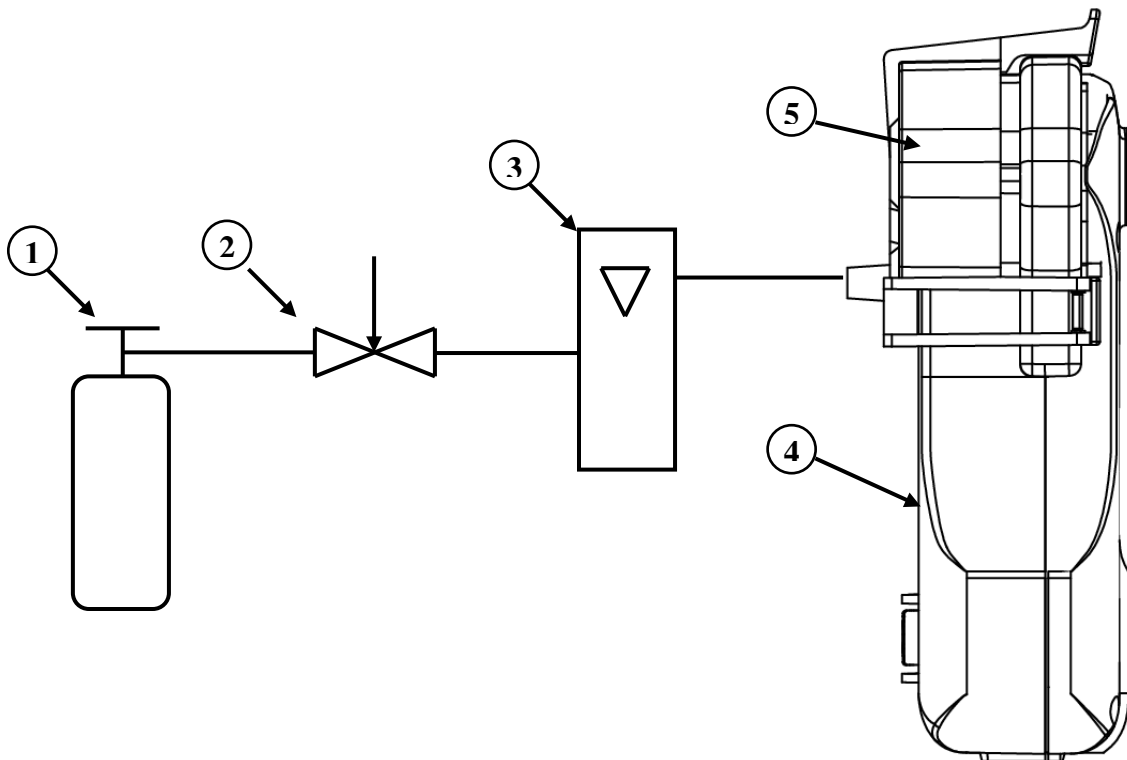

Figure 11. Calibration circuit
3.1.1 Assemble the calibration circuit as shown in Figure 11.